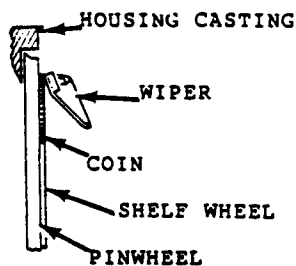

Figure 4-12
- 1) Loosen the coin wiper retaining screws with a Phillips screwdriver. See Figure 4-12.